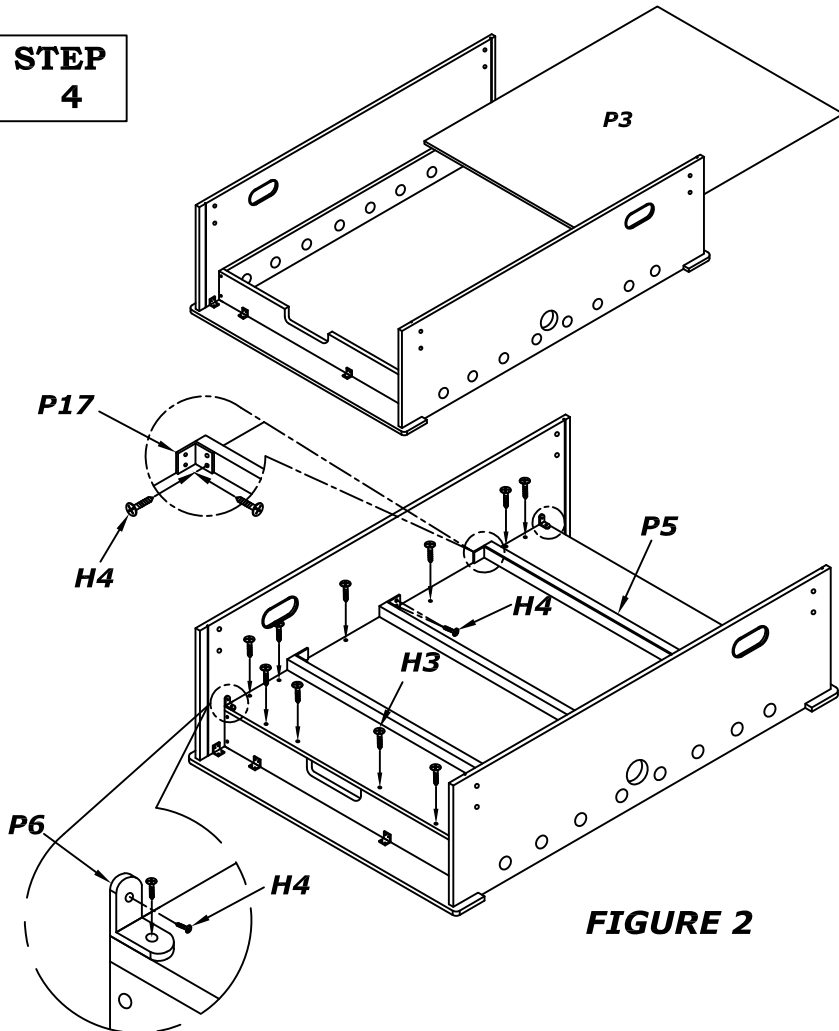

FIGURE 2
- 4 SET THE PLAYFIELD **P3** ONTO THE ASSEMBLY AND ATTACH WITH SCREWS **H3** AS SHOWN IN **FIGURE 2**.
PLACE THE PLAYFIELD SUPORT BRACES ON THE BOTTOM OF THE PLAYFIELD. ATTATCH THE BRACES USING BRACKETS **P17** AND SCREWS **H4**. AS SHOWN IN **FIGURE 2**.
ATTACH THE BRACKET **P6** TO THE SIDE PANELS AND THE PLAYFIELD WITH SCREWS **H4** AS SHOWN IN **figure 2**.